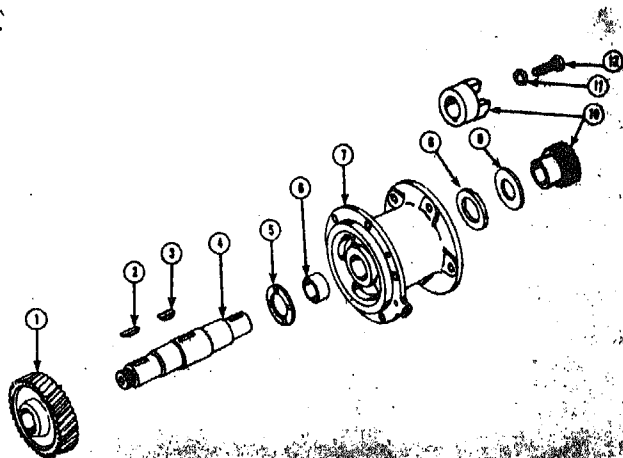
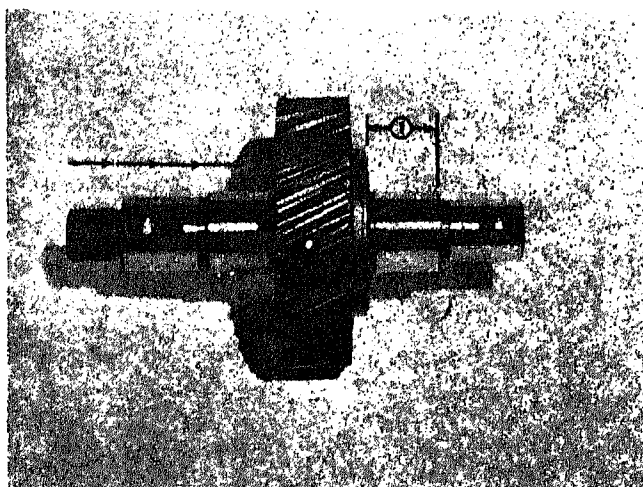

Fig. 9-1-2. Fuel pump drive (IOL)
Fig. 9-1-3. Accessory drive assembly dimension
1. Remove drive shaft cap screw (12, Fig. 9-1-2); using suitable puller, pull coupling (10) from shaft.
Note: On IOL engines, remove clamping washer (9, Fig. 9-1-2) and thrust washer (8).
3. Press shaft from gear (1).
4. Remove keys (2, 3) from shaft (4).
1. On IOL engines, inspect bushing (6, Fig. 9-1-2) in drive support (7). Replace if worn larger than 1.322 in. [33.5788 mm] or if more than 0.002 in. [0.0508 mm] out-of-round. New dimensions are 1.314 to 1.319 in. [33.3756 to 33.5026 mm] in diameter. Available for service only are undersize bushings to compensate for wear; 0.010 in. [0.2540 mm] undersize dimensions are 1.304 to 1.309 in. [33.1216 to 33.2486 mm], 0.020 in. [0.5080 mm] undersize dimensions are 1.294 to 1.299 in. [32.8676 to 32.9946 mm].
4. Inspect gear (1) and coupling (10) for chipped, cracked or worn teeth.
5. Check shaft (4) for wear, damaged keyways or damaged threads. New dimensions for the bushing surface of shaft are 1.3115 to 1.312 in. [33.3111 to 33.3248 mm]. Replace if defective or worn smaller than 1.310 in. [33.2740 mm].
1. Install key (3, Fig. 9-1-2) in shaft (4) and press on gear to 1.143 to 1.145 in. [29.0322 to 29.0830 mm] in direction shown by arrows (1, Fig. 9-1-3).
4. Place shaft (4, Fig. 9-1-2) and gear (1) assembly in port (7).
5. Install second thrust washer (8) and flat washer (9) in support.
- Note:** Some drives use Lovejoy-type couplings which are assembled to shaft with capscrew (12).
7. Install capscrew and lockwasher (12, Fig. 9-1-2).
2. Place thrust washer (5, Fig. 9-1-2) on shaft against gear (1) (except EOL).
3. Press bushing (6) in support (7) if removed on IOL engines.